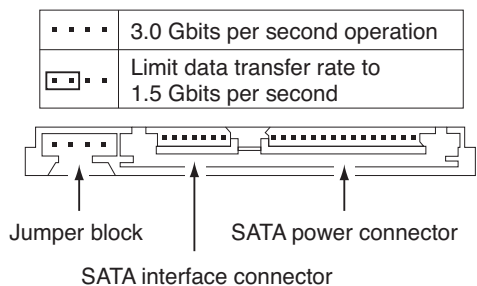

Figure 1. Serial ATA connectors
- Install a jumper as shown in Figure 1 below to limit the data transfer rate to 1.5 Gbits/sec (and leave the drive connected to the SATA-equipped motherboard or host adapter that doesn't support autonegotiation) or
- Install a SATA host adapter that supports autonegotiation, leave the drive jumper block set to “Normal operation” (see Figure 1 below), and connect the drive to that adapter. This option has the benefit of not limiting the drive to a 1.5 Gbits/sec transfer rate.